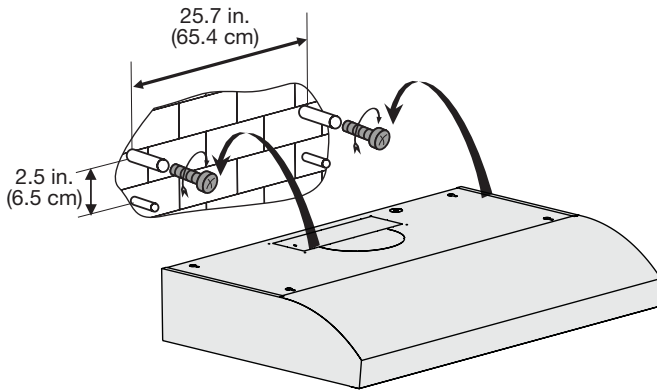

Figure 14
- Mark or drill four Ø 8 mm holes on the mounting position according to the dimensions on Figure 14.